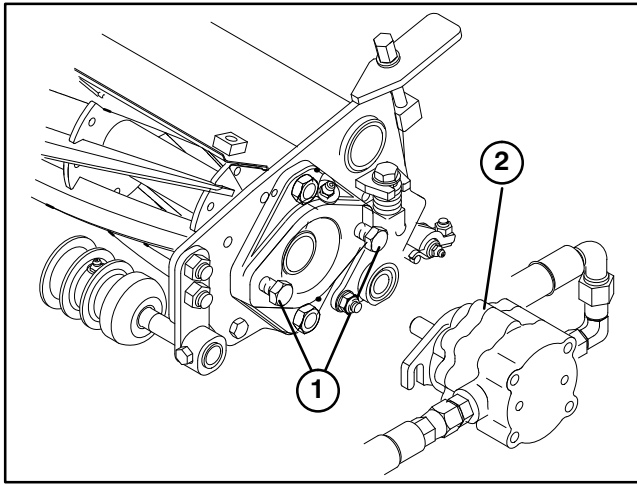

Figure 13
9. Assemble the mounting capscrews for the reel drive motor to each cutting unit. Leave approximately 1/2 in. of threads exposed on each mounting capscrew (Fig. 13).
11. Coat the spline shaft of the motor with clean grease and install the motor by rotating the motor clockwise so the motor flanges clear the studs. Rotate the motor counterclockwise until the flanges are encircling the studs and tighten the mounting capscrews (Fig. 13).